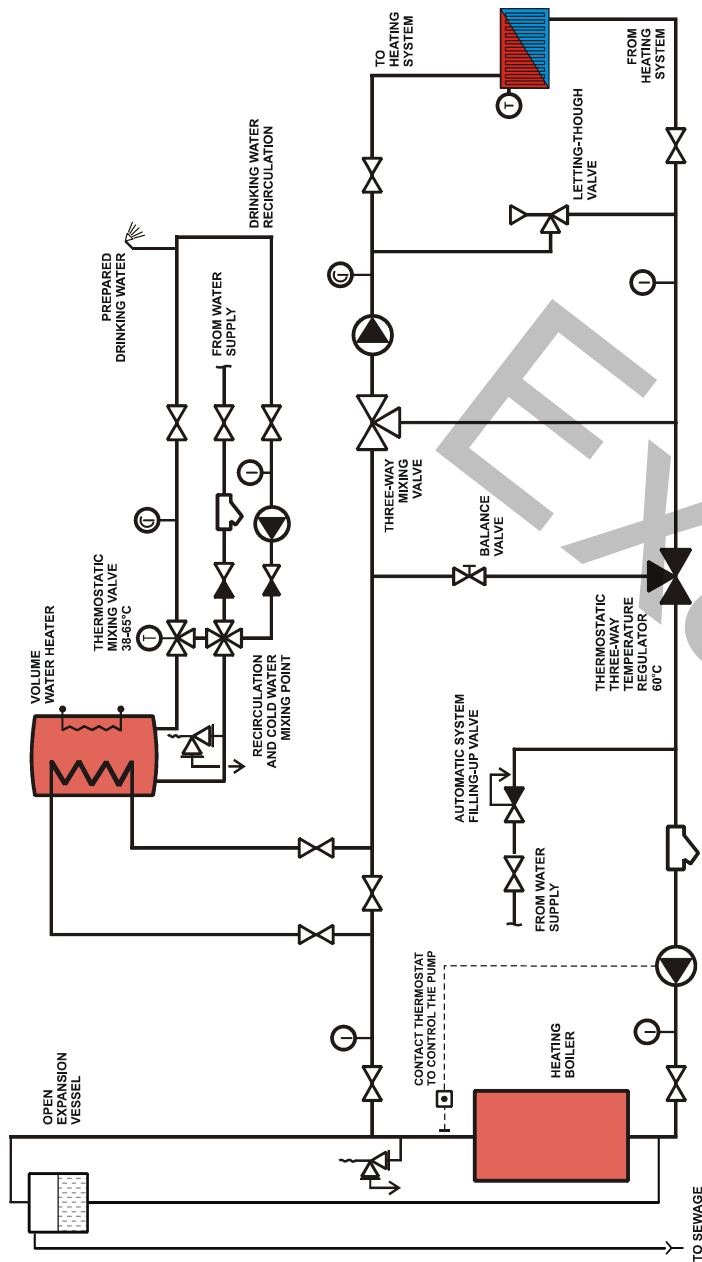

Fig. 4b
**Note.** For the boilers, operated in open expansion system, it is not necessary to install the device for heat surplus dissipation in the boiler, because heat surplus is dissipated in the form of steam through open expansion vessel. Recommended connection diagrams are given in fig. 4b, 4c.